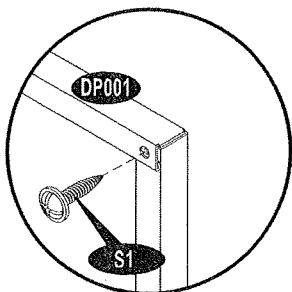

Fig. 1
1. Assemble sliding door panel (DP001) with door panel strip (SD006). Before fixing all the strips, secure all corners first with (S1) screws. See fig. 1. Fix (SD006) and secure with (S1) screws from inside and (S3) bolts and nuts with washers from outside. See fig. 2.